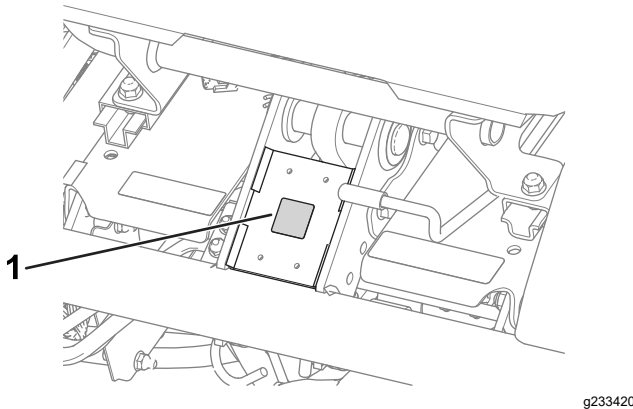

Figure 14
- Apply the CE mark decal (Part No. 93-7252) to the frame under the front of the seat (Figure 14).